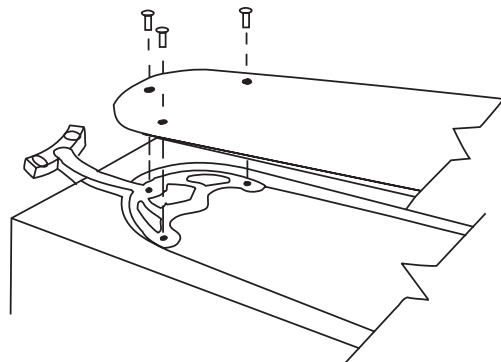

Figure 12
1. Attach the wood blades to the blade brackets using three screws for each blade. See Figure 12.